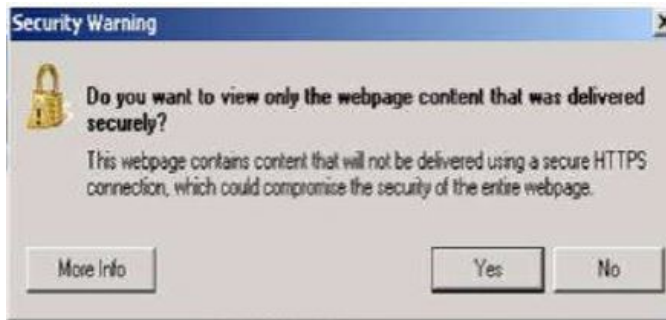

Fig. 1
6. If a security message appears “Do you want to view only the web page content that was delivered securely?” Fig. 1. Press “No” to continue.